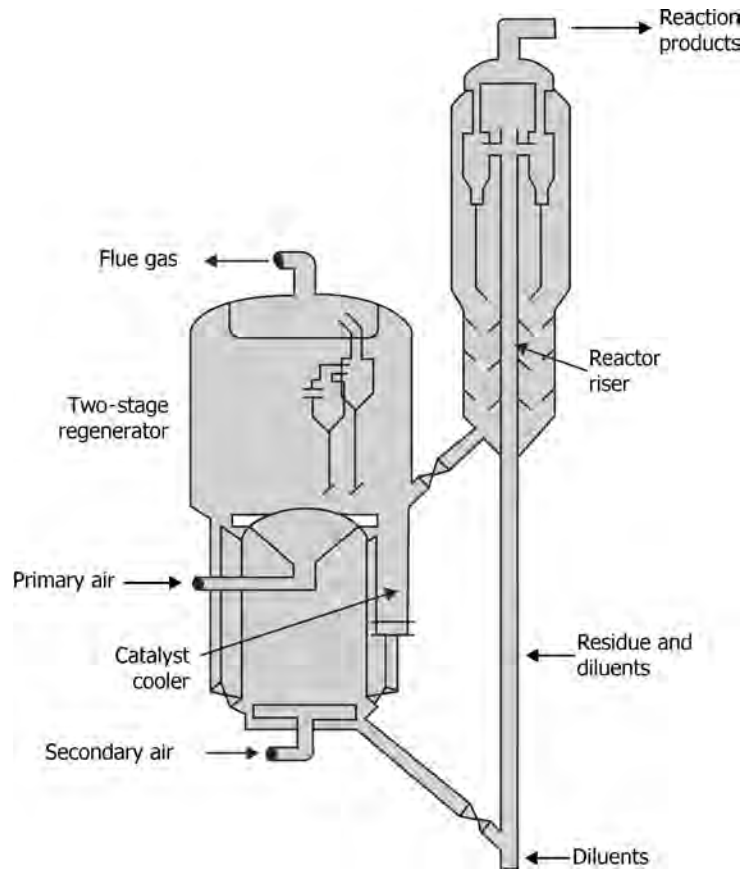

FIGURE 7.13 Fluid catalytic cracking unit with a two-stage regenerator (UOP).
- There are a number of variations in the design of catalytic cracking and reforming units. Figure 7.13 gives another variation used in fluid catalytic cracking units.